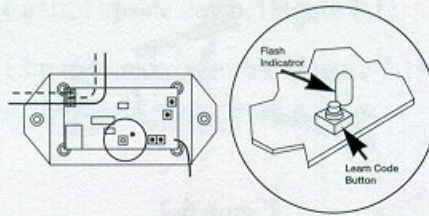

Figure 5-1
- Step 1** • **LOCATE** the Receiver Learn Code Button. (Figure 5-1)